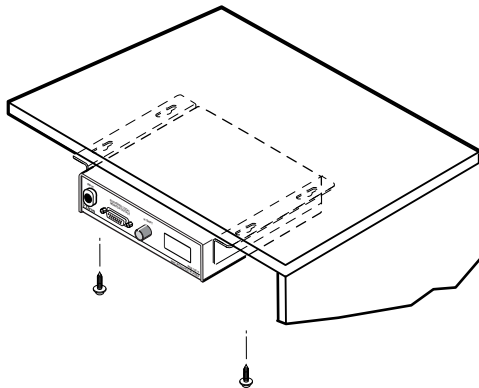

Figure 2-8 — Mounting the interface under a desk
4. Using the four wood screws provided, attach the brackets under the mounting surface (see figure 2-8).